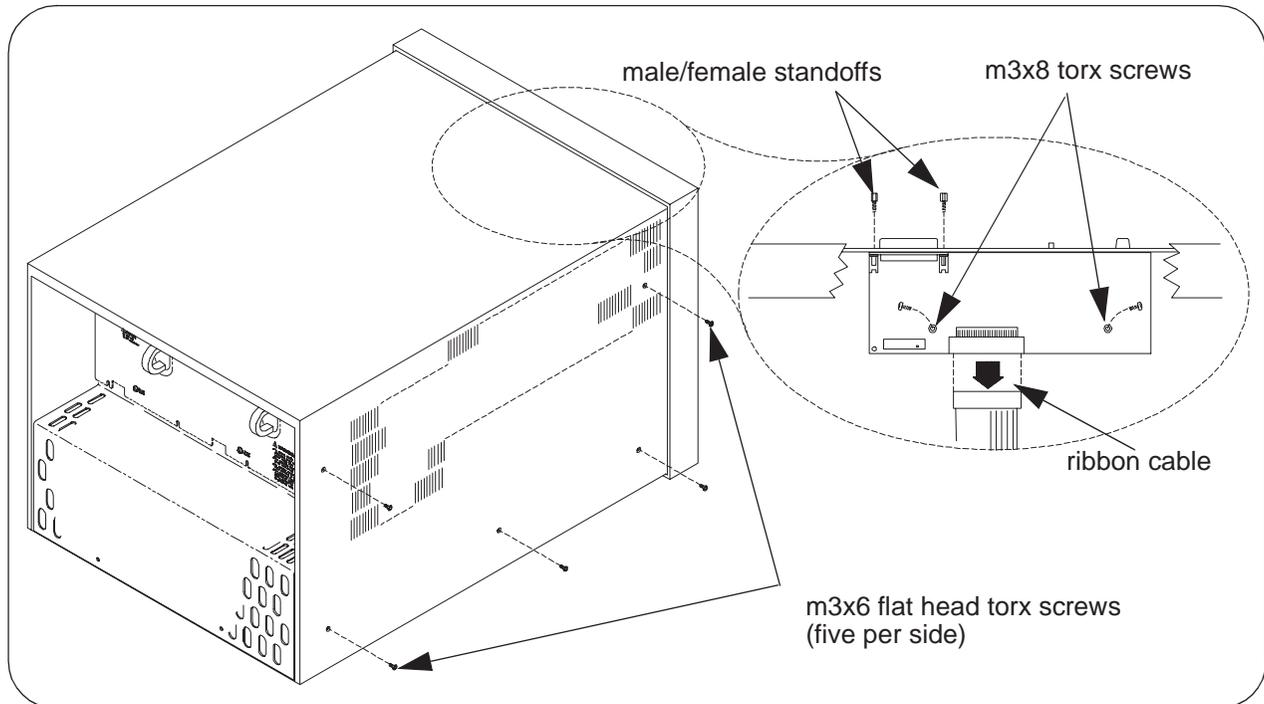

Figure 3-1. Removing the Mainframe Cover and Basic Monitor Board.
2. Remove the mainframe cover by removing the ten m3x6 flat head torx screws (Figure 3-1).